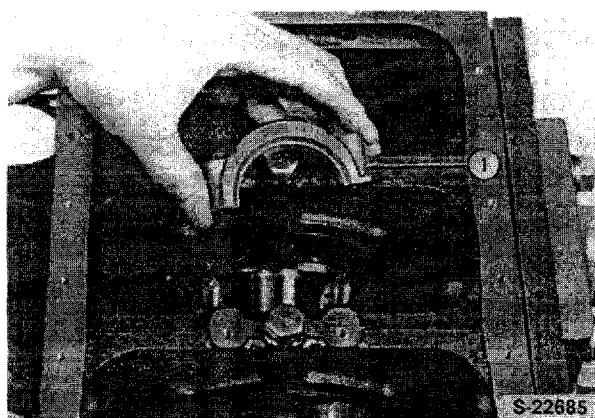

Figure 51
1. Remove the connecting rod caps, Figure 51.